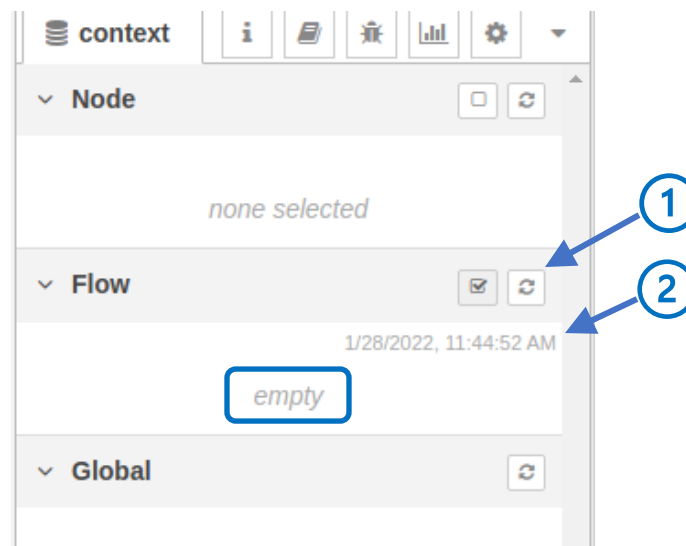
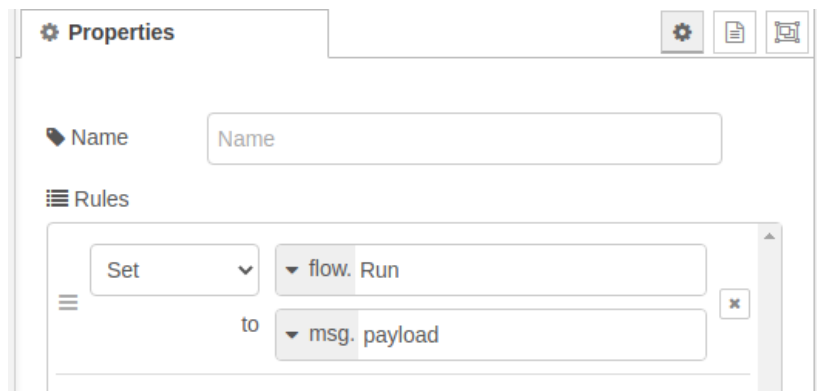

Figure 5-50: Context Data Example
Figure 5-52: Configuration of Change Node to Set Run Variable
Now open the Context Data tab in the side bar and open the Flow dropdown (see Figure 5-50). Click the refresh icon ❶ in that figure. Notice that the Flow dropdown is still empty even though you have mentioned the variable “Run” in your “set Flow.Run” node ( Figure 5-52, above). You might be asking yourself, “What’s going on here?” The answer is that in Node-RED a context data variable does not spring into existence merely because you mention it in some node or other in your flow. Rather it will only become real the first time you assign a value to it.